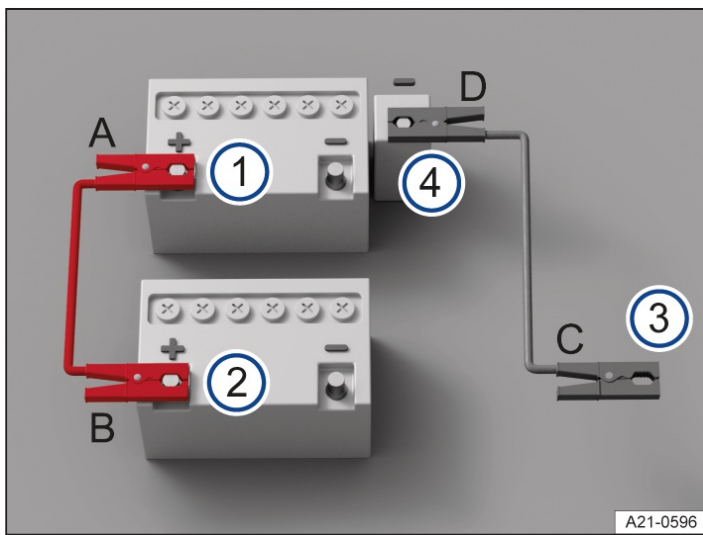

Fig. 1 Diagram showing how to connect jump leads in vehicles with a 12-volt vehicle battery in the engine compartment.
Connect the jump leads only in the order A – B – C – D → Fig. 1.
3. Connect one end of the red jump lead to the positive terminal+ of the 12-volt vehicle battery with the discharged 12-volt vehicle battery → Fig. 1 ① → ⚠.
4. Connect the other end of the red jump lead to the positive battery terminal+ of the vehicle providing assistance → Fig. 1 ②.
5. Connect one end of the black jump lead to an earth jump-start connection point- on the vehicle with the 12-volt vehicle battery providing assistance → Fig. 1 ③.
Or: if no earth jump-start connection point- is present, connect the end of the black jump lead to a solid metal part that is securely bolted onto the cylinder block or to the cylinder block itself on the vehicle with the 12-volt vehicle battery providing assistance → Fig. 1 ③.
6. Connect the other end of the black jump lead to the earth jump-start connection point- on the vehicle with the discharged 12-volt vehicle battery → Fig. 1 ④ → ⚠.